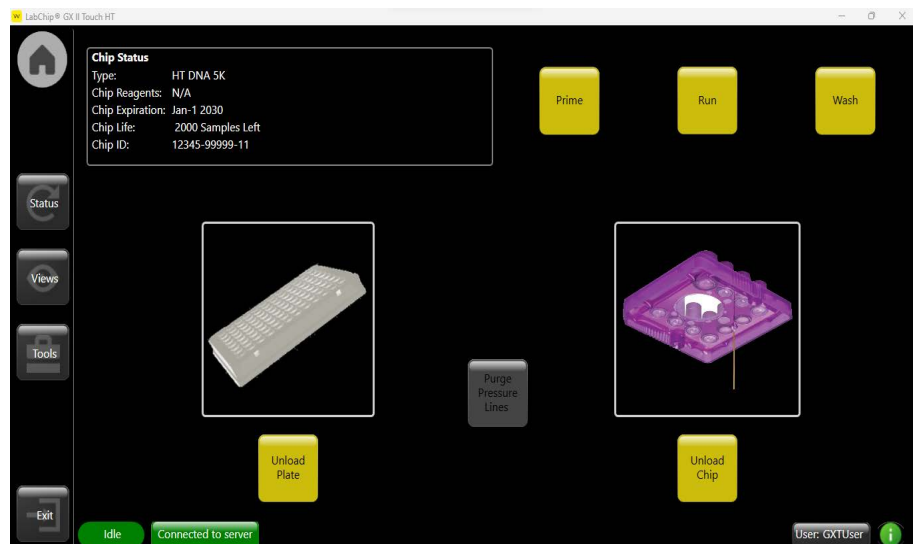

Figure 5. Home screen.
- 5 Touch the *Load Plate* button on the *Home* screen (Figure 5) to retract the sample plate and send the sipper to the Buffer Tube.